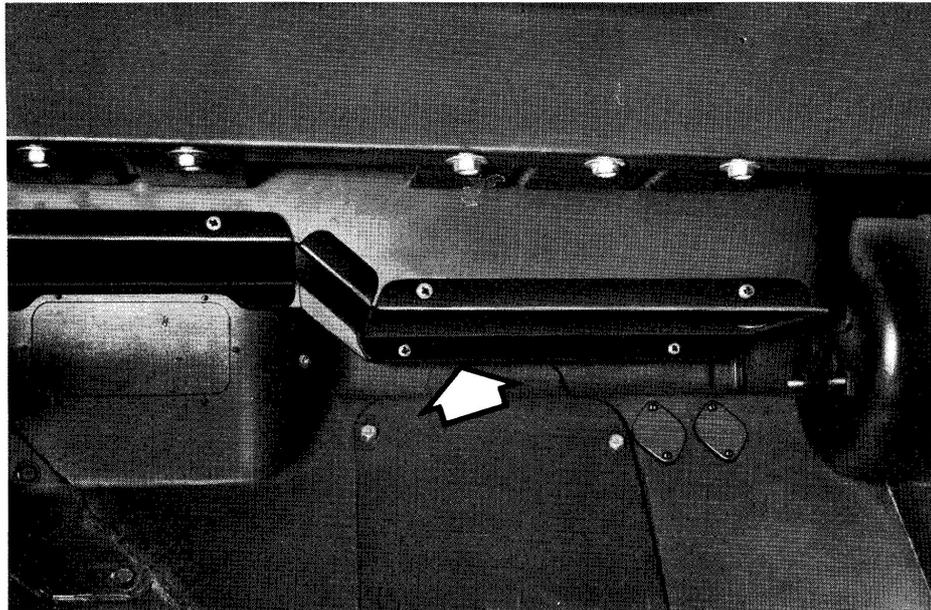

Fig. 1. Lower battery compartment cover.
- a. Remove the lower battery compartment cover underneath the vehicle dash panel, Fig. 1.